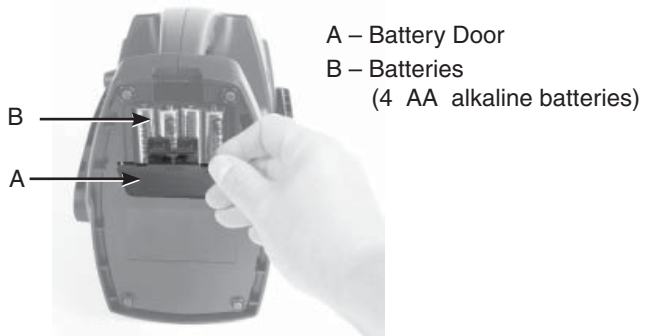

Figure 18. Removing Battery Door
1. Remove battery door (A) (Figure 18)
2. Remove and properly dispose of the four AA alkaline batteries (B)
3. Replace with 4 new AA alkaline batteries (B) (pay special attention to the battery polarity (+) )
4. Replace and secure battery door (A).